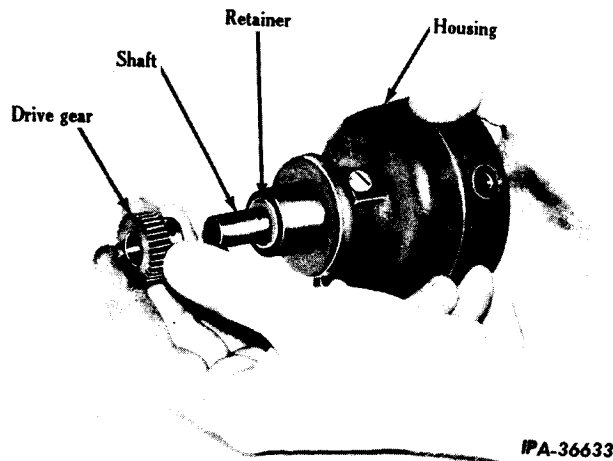

Fig. 13 - Removing Drive Gear.
4. Remove the distributor from the drive housing (Fig. 13).
16. Remove the pin from the drive gear and shaft. The gear can then be removed from the shaft (Fig. 13).
6. Install the drive gear on the shaft (Fig. 13) and place a new pin through the gear and shaft.